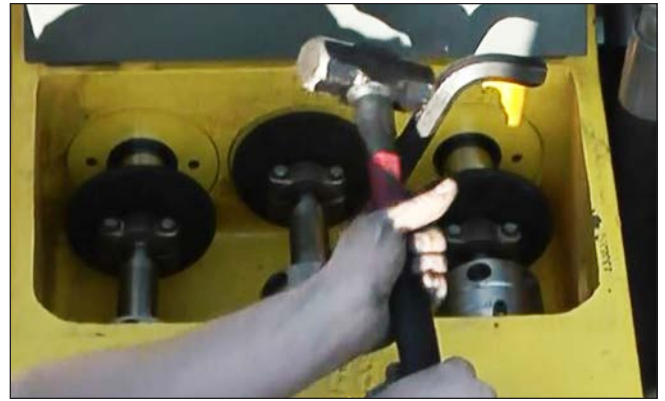

Figure 87: Loosening the Gland Nut.
6. Insert the rounded end of the pump wrench (Figure 87) into one of the holes in the gland nut and tap the top of the wrench sharply with a heavy hammer to loosen. When loose, unscrew the gland nut from the stuffing box by hand.